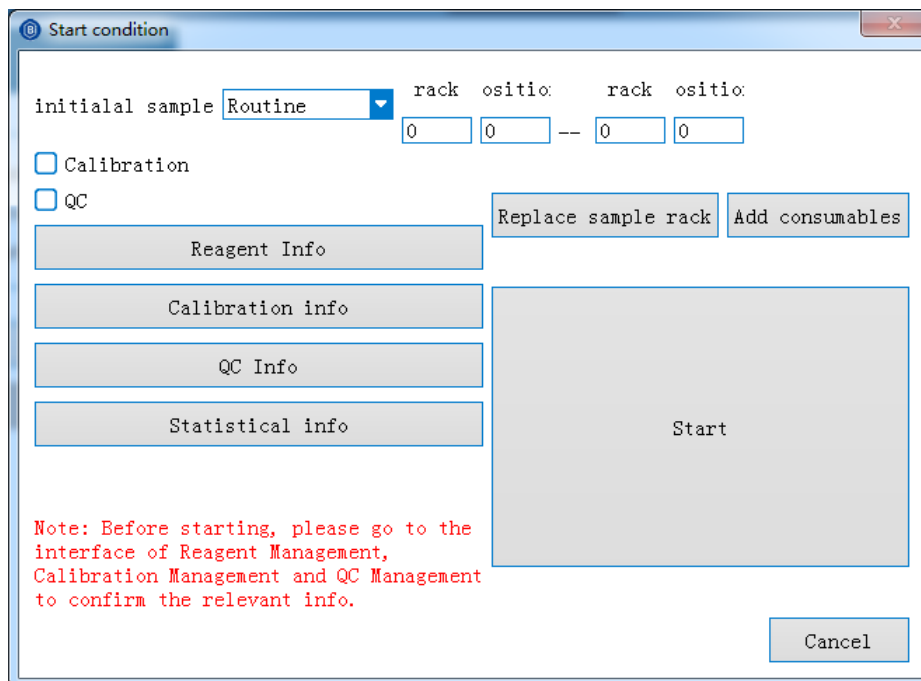

Figure. 8.9.3 Star-tup conditions (barcode mode)
- Click **Start-up** in the function controls column to pop up the start-up conditions interface, as shown in Figure 8.9.3.